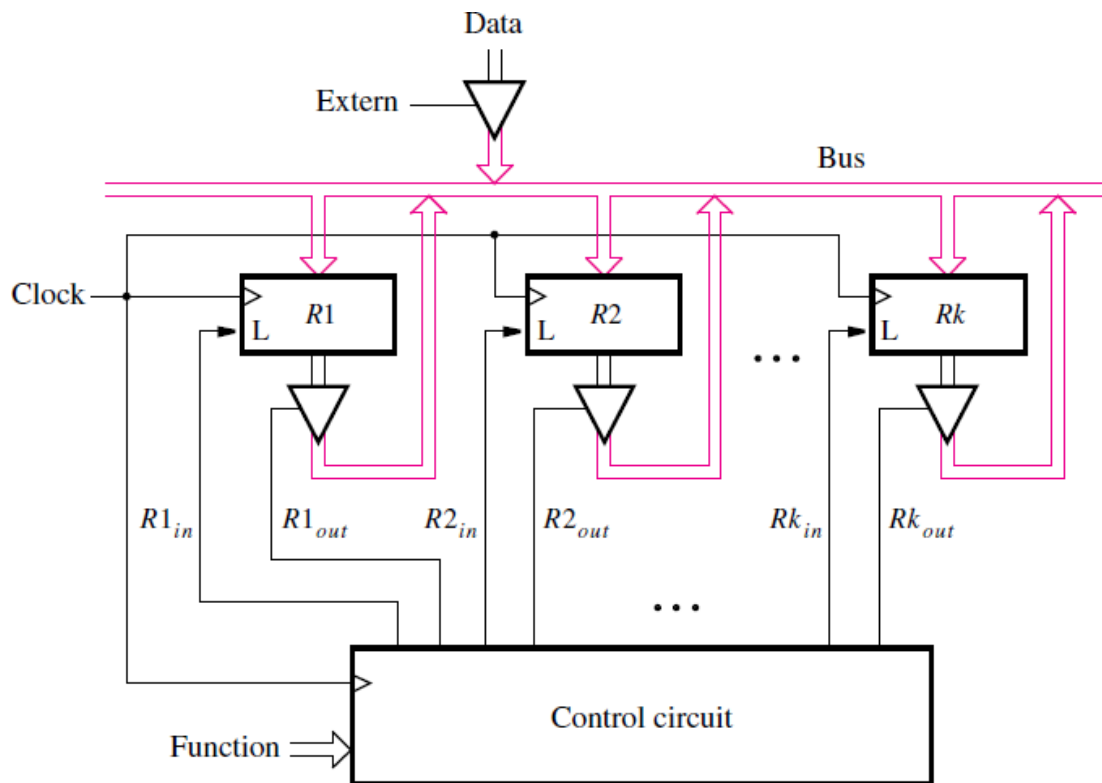

Fig 12.1 A digital system with k registers.
- Consider a system that contains k n-bit registers, R1 to Rk. Figure 12.1 shows how these registers can be connected using tri-state drivers to implement the bus structure. The data outputs of each register are connected to tri-state drivers. When selected by their enable signals, the drivers place the contents of the corresponding register onto the bus wires. The enable signals are generated by a control circuit.
various functional units of the system. Figure 12.1 shows an input signal named Function that instructs the control circuit to perform a particular task. The control circuit is synchronized by a clock input, which is the same clock signal that controls the k registers.